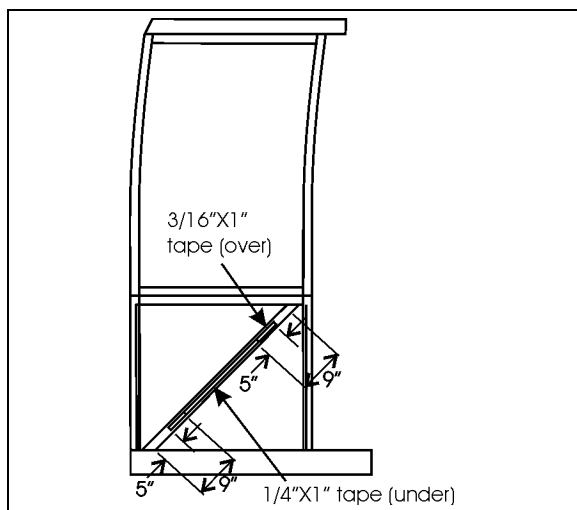

FIGURE 41 : SIDE PANEL INSTALLATION – DOUBLE FACE ADHESIVE TAPE APPLICATION ON THE SLIDE-OUT STRUCTURE (FRONT SLIDE-OUT ONLY)
2. Refer to figure 41 for 1/4X1 (#5060038) and 3/16X1 (#506207) double face adhesive tape location on diagonal member of front slide-out only. Do not remove the tape blue protective layer;